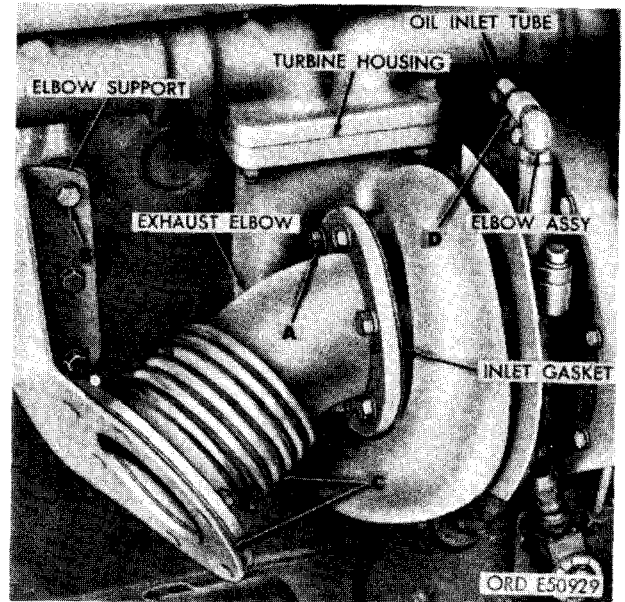

FIGURE 47. REMOVING OR INSTALLING TURBOSUPERCHARGER ELBOW AND DISCONNECTING OR CONNECTING TURBOSUPERCHARGER OIL INLET TUBE (EARLY MODEL ENGINES).
- (4) Figure 47. (A) Remove six 3/8 x 1 cap screws securing turbosupercharger exhaust elbow to turbosupercharger turbine housing. (B) Remove three 3/8 x 3/4 cap screws and 3/8-inch lock washers securing turbosupercharger exhaust elbow support to cylinder and crankcase. (C) Remove exhaust elbow and support as an assembly. Remove and discard the turbosupercharger exhaust elbow inlet gasket. (D) Disconnect the turbosupercharger oil inlet tube from 9/16-inch elbow assembly.